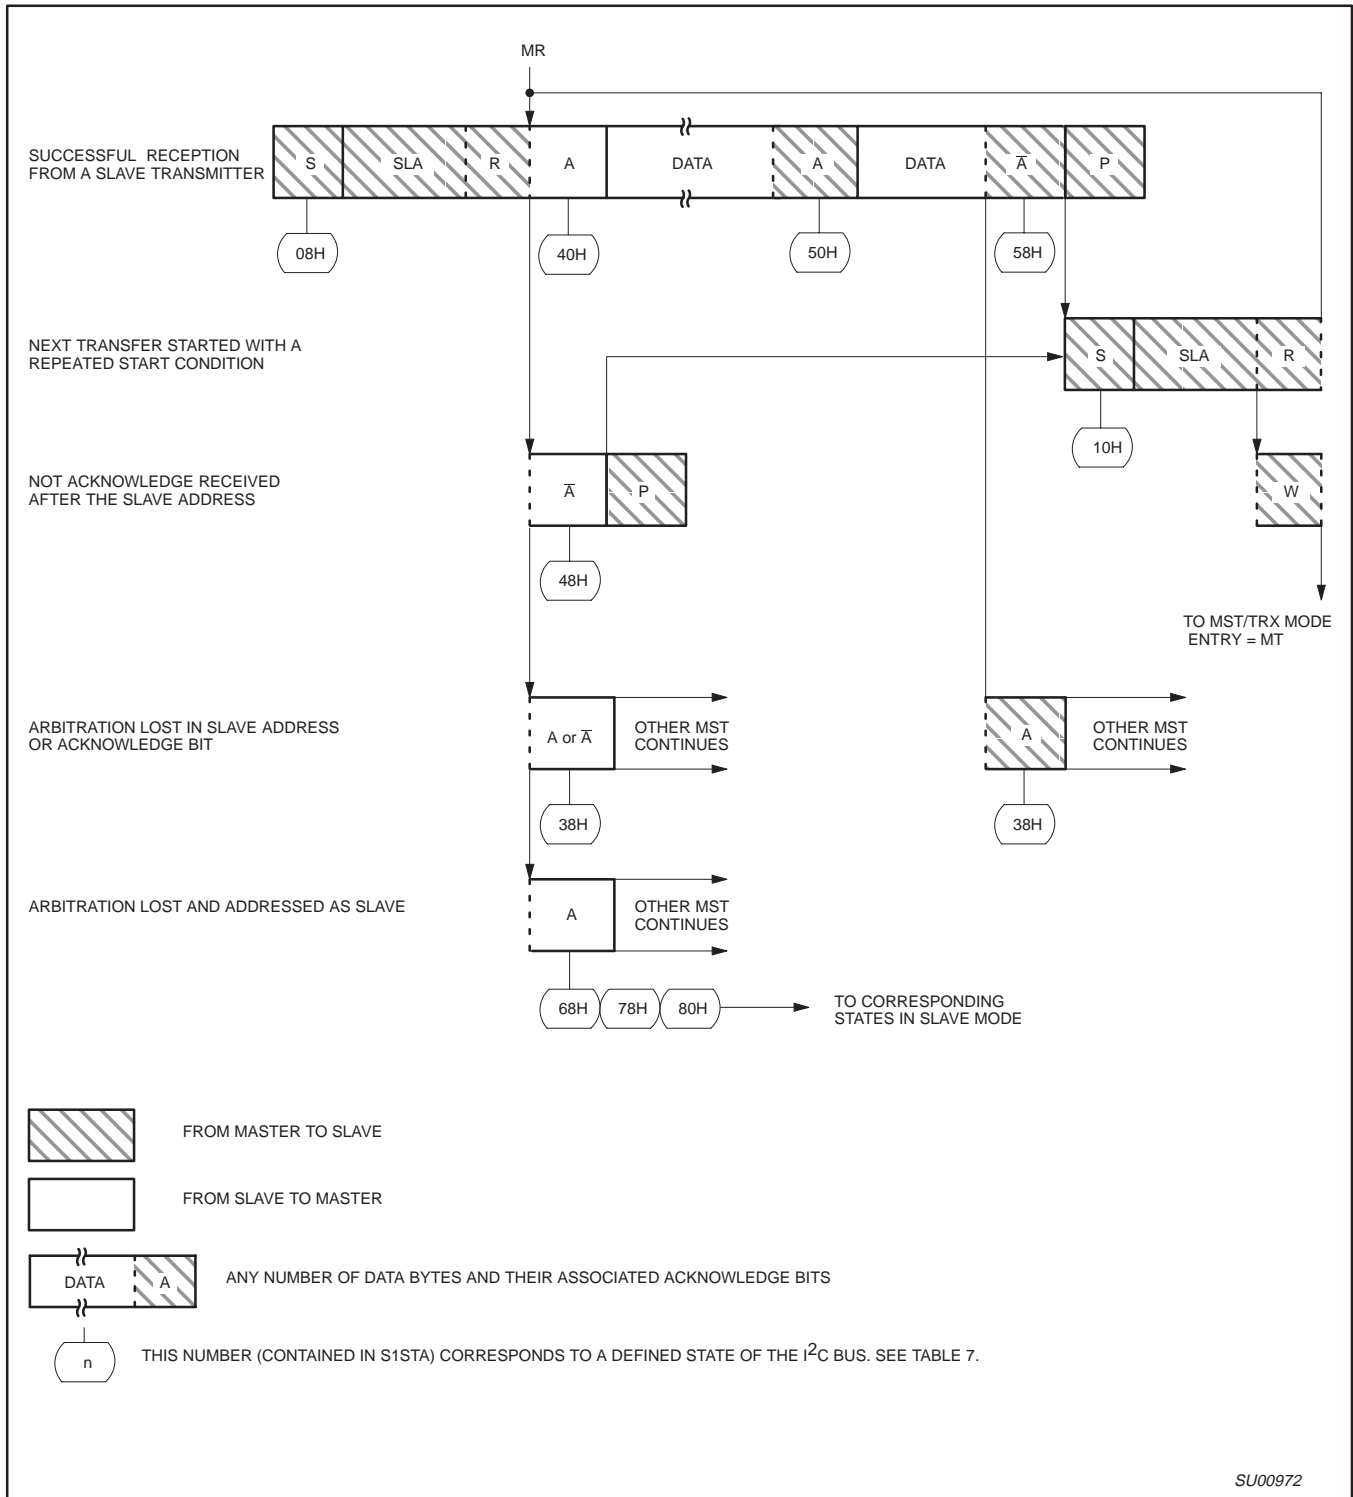

Figure 41. Format and States in the Master Receiver Mode
**Master Receiver Mode:** In the master receiver mode, a number of data bytes are received from a slave transmitter (see Figure 41). The transfer is initialized as in the master transmitter mode. When the start condition has been transmitted, the interrupt service routine must load S1DAT with the 7-bit slave address and the data direction bit (SLA+R). The SI bit in S1CON must then be cleared before the serial transfer can continue.